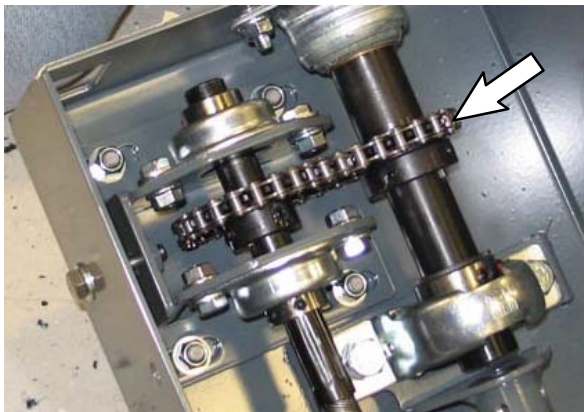

FIG. 37
33. Remove the steering chain. (Fig. 37)